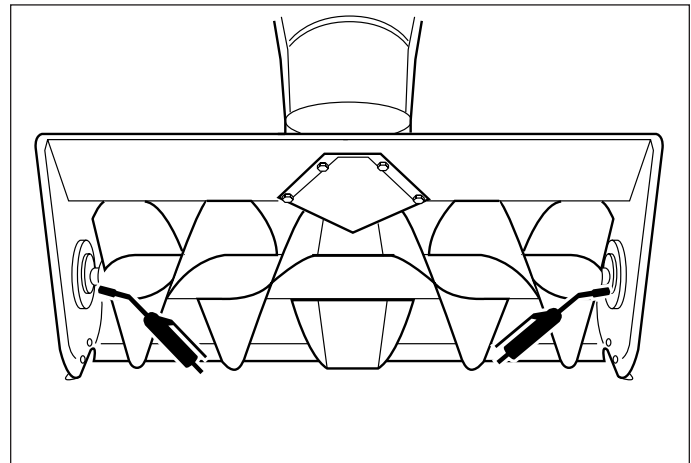

Figure 4. Auger Bearing Lubrication
See Figure 4.
3. Loosen the lockwashers and nuts securing two belt stops on idler pulleys (A and E, Figure 4).